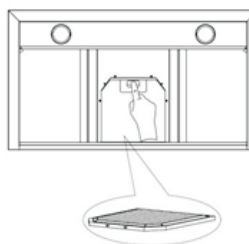

Fig.10
Aluminium charcoal sponge filters (where applicable) (Fig. 10)
Removing and inserting charcoal or aluminum charcoal filter. (Fig. 10)
- After removal of the pyramidal filter, remove the saturated charcoal filters from the blower as shown below (Fig.10)